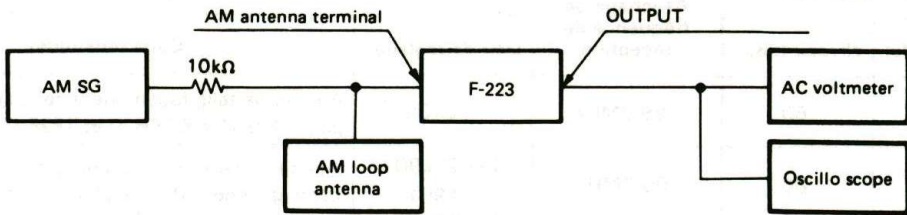

Fig. 5-2 AM Tuner Connection
- Make the connections as shown in Fig. 5-2.